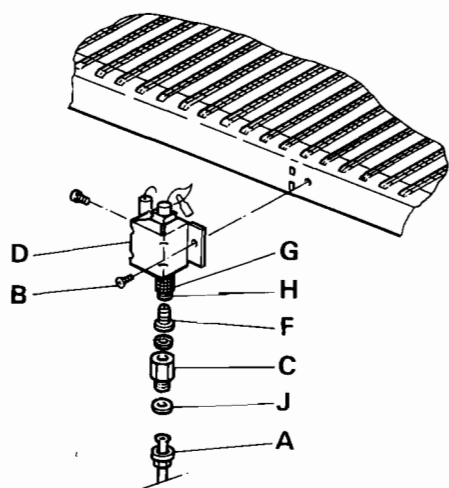

Fig. 20
Section 3 : To replace pilot assembly (Fig. 20)
- 3.5. The Pilot Assembly including the Electrode may now be stripped to its component parts (Fig. 20) in order to clean/replace Injector, Pilot, Aeration Gauze, Filter, and Electrode.